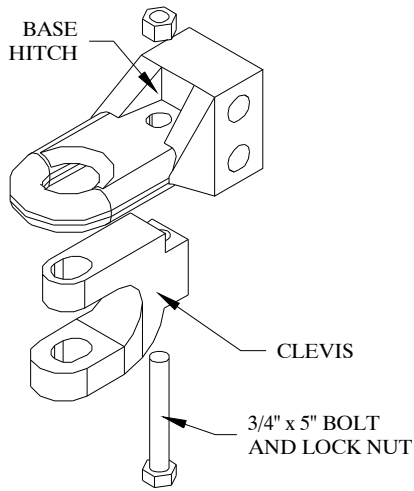
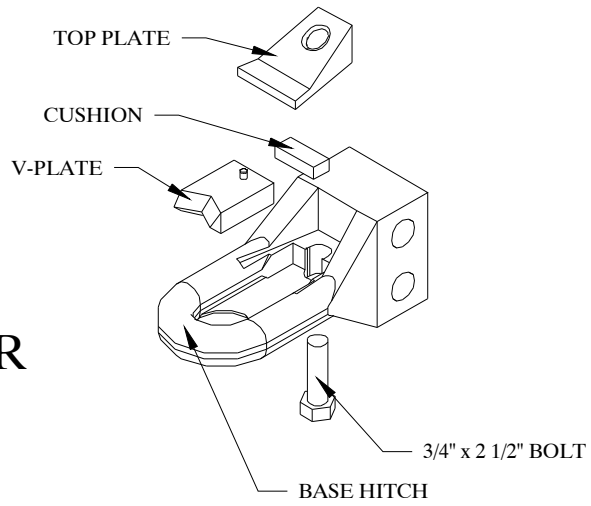

Figure 2
Figure 3
5. Assemble either a clevis hitch (figure 2) or a pintle hitch (figure 3) as required by the tractor or towing vehicle. Note the opposite orientation of the base hitch for each hitch type. Attach the hitch assembly to the Main Frame with two 1" x 6 $\frac{1}{2}$ " bolts and locking nuts.